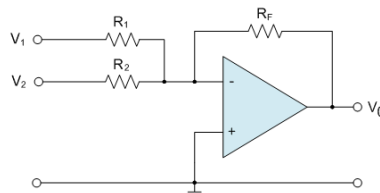

Figure 3.5: Summing op-amp circuit.
- the summing op-amp circuit in figure 3.5 which you will build.
3. Build the summing op-amp circuit in figure 3.5, using the three resistors, and use it to sum the two sinusoids of the two function generators. Do not forget to supply the op-amp with -15 V and $+15$ V from the AD laboratory's DC power supply.